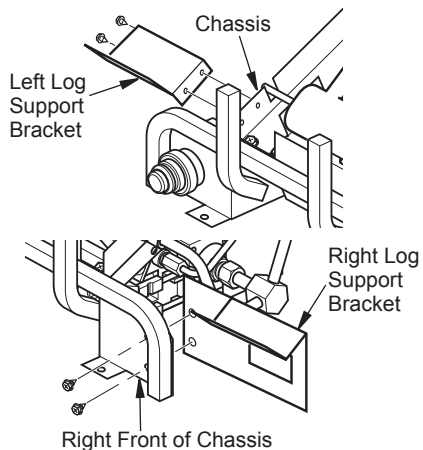

Figure 25 - Installing VUL36 Log Support Brackets
1. Install left bracket to left side of chassis using 2 screws provided (see Figure 25).
2. Install right bracket to right front of chassis using 2 screws provided (see Figure 25). This bracket will also be used as remote control bracket if remote is installed.